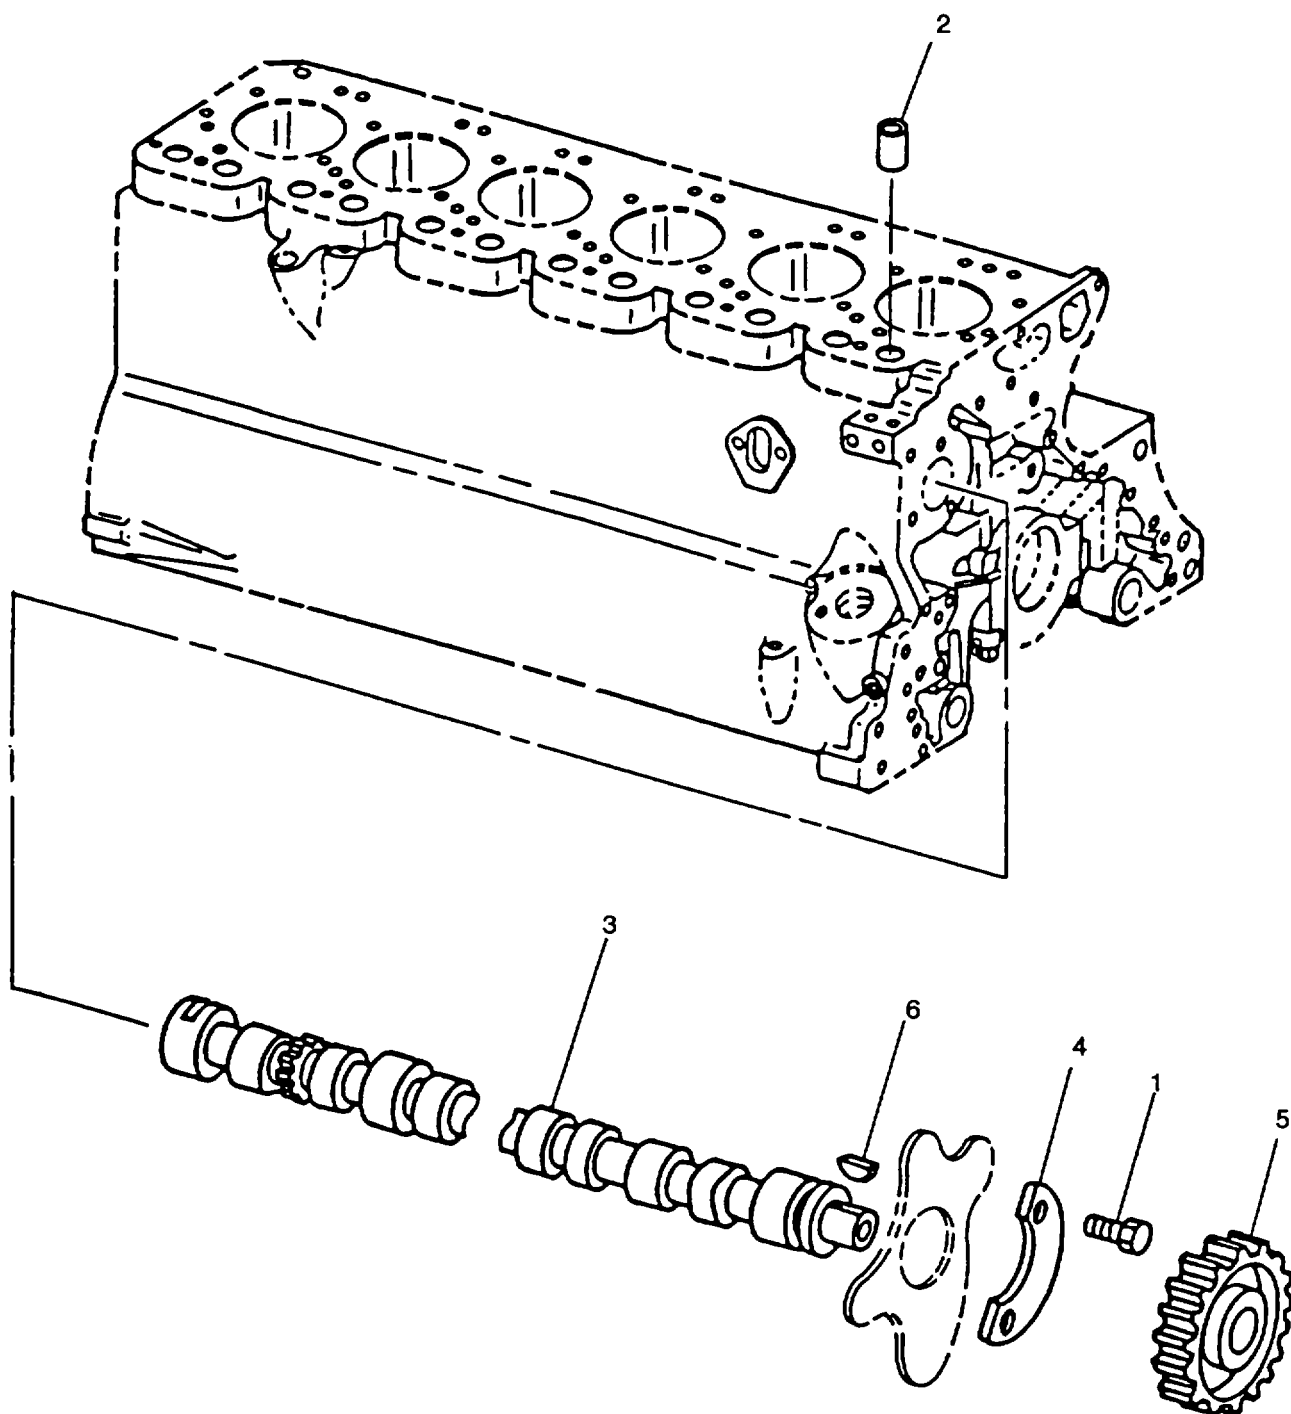

FIGURE 3-128. Camshaft
- e. When removing camshaft (3, FIGURE 3-128) with engine on rollover stand, roll engine to a horizontal position with oil pan side up.
- a. Install gear (5, FIGURE 3-128) as follows:
- (1) Install key (6) in camshaft.
- (2) Install gear (5) with timing mark facing away from camshaft (3), aligning slot in gear with key (6).
- (3) Using a tubular driver, press gear (5) on camshaft (3) until gear is flush with shoulder on camshaft.
- b. Coat camshaft lobes and cam followers (2) with a general purpose grease (630AA).